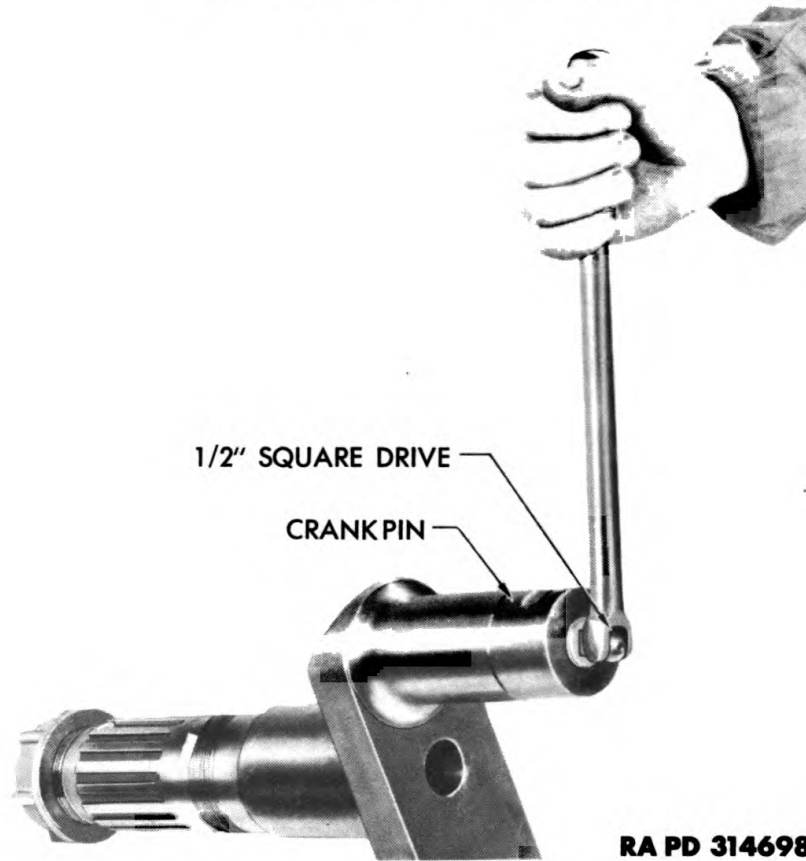

Figure 125 — Removing Crankpin Plug
j. Remove Crankpin Plug from Crankpin. Using square wrench, remove plug from rear of crankpin (fig. 125). Crankshaft disassembly is now completed.